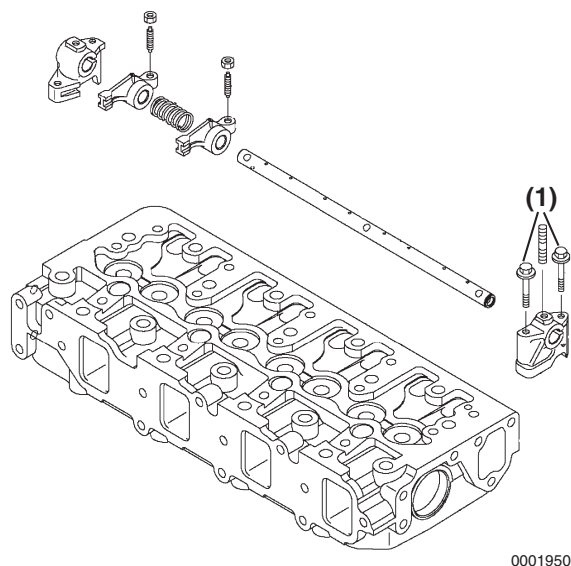

Figure 6-6
1. Remove the bolts (**Figure 6-6, (1)**) that retain the rocker arm shaft supports.